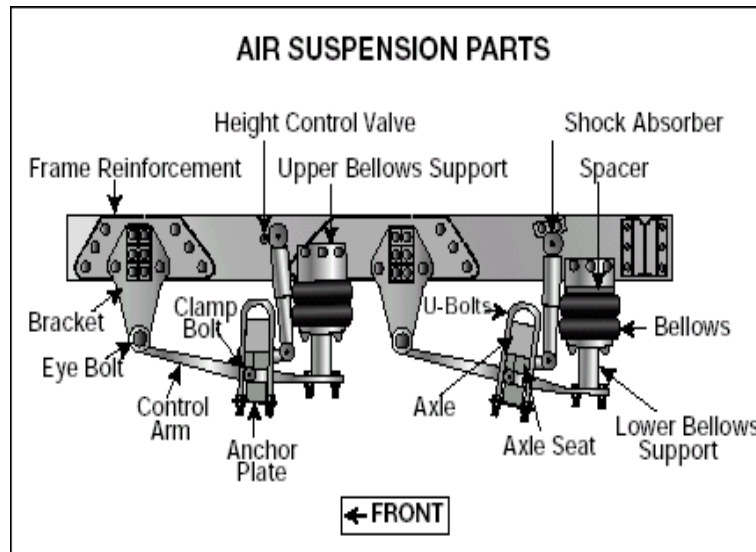

Figure 2.4
- Air suspension systems that are damaged or leaking. See Figure 2.4.